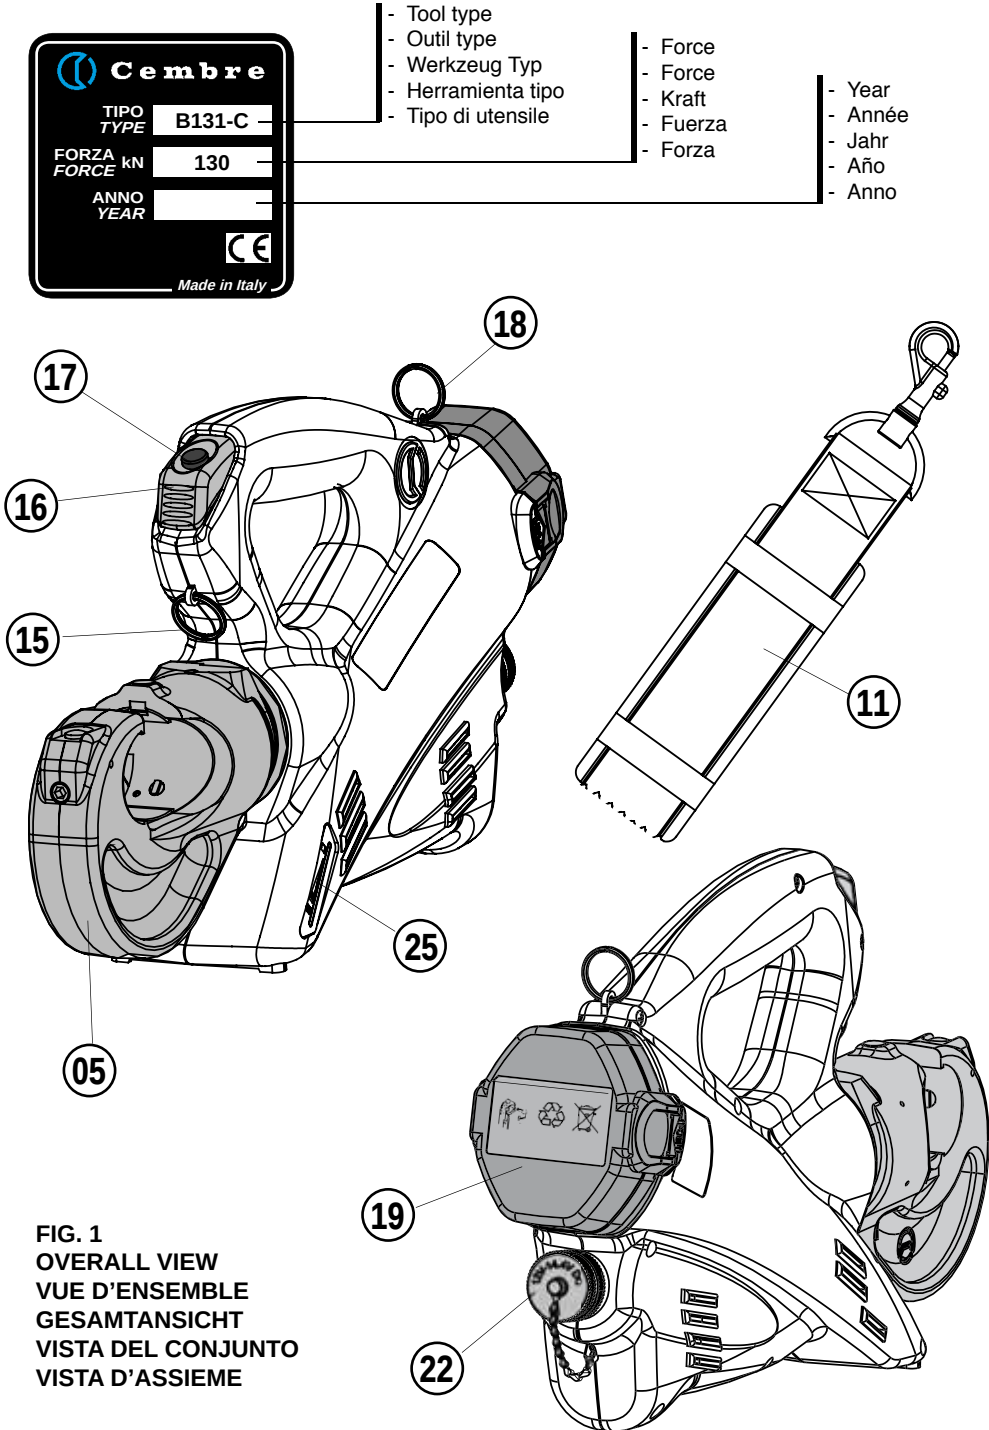

FIG. 1
2. INSTRUCTIONS FOR USE (Ref. to Figs. 1 and 2)
(Ref. to Figs. 1 and 5)
2.7) Battery status (Ref. to Fig. 1)